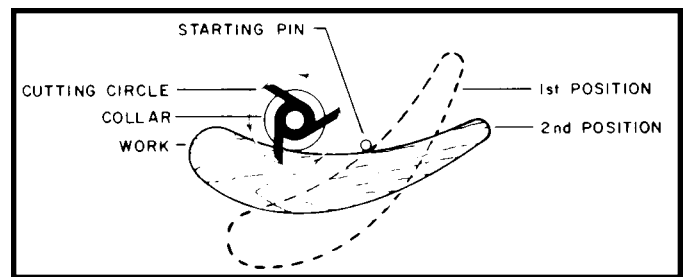

Fig. 46
2. The work should be placed in the first position using the guide pin as a support, as shown in Fig. 46. Then swing the work into the cutter as shown in the second position. The work will now be supported by the collar and starting pin as shown in Fig. 46.